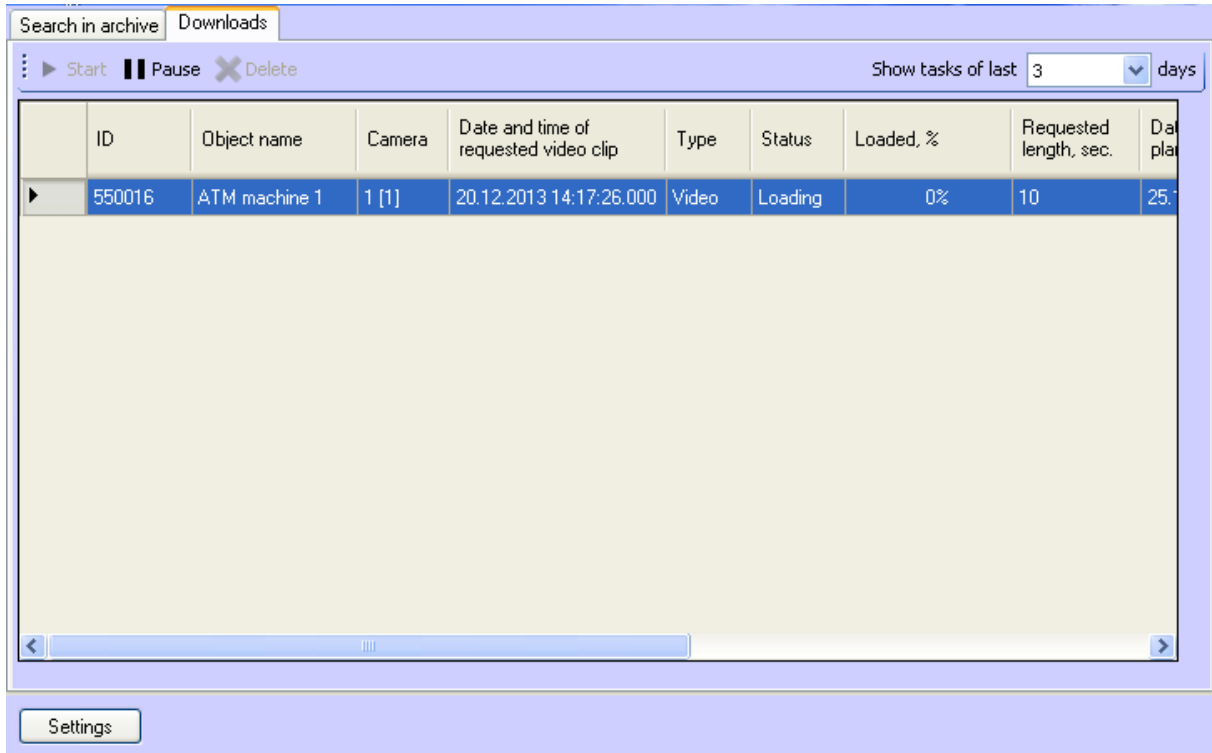

Fig. 5.5—3 Downloads tab
12. Data reception process is viewed on the **Downloads** tab. During receipt of a video fragment, the file's size, amount downloaded and transmission speed are shown (Fig. 5.5—3).